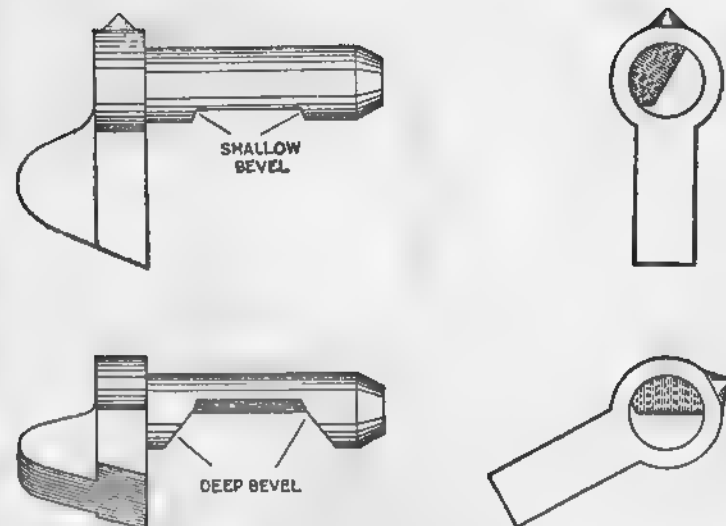

Fig 26.—The change lever
1. **General.**—The change lever has a deep and a shallow bevel in its stem; as you move the change lever, you alter the position of the tripping lever, and so control the tripping action (see Fig 26).